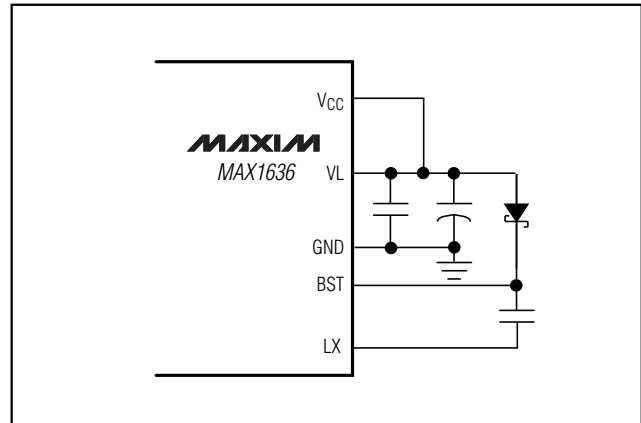

Figure 7. Capacitor Placement
- 2) Place the IC and signal components. Keep the main switching nodes (LX nodes) away from sensitive analog components (current-sense traces and REF capacitor). Place the IC and analog components on the opposite side of the board from the power-switching node. **Important:** The IC must be no further than 10mm from the current-sense resistors. Keep the gate-drive traces (DH, DL, and BST) shorter than 20mm and route them away from CSH, CSL, and REF. Place ceramic bypass capacitors close to the IC. The bulk capacitors can be placed further away. If using VL to power VCC, minimize noise by placing a 0.1µF capacitor close to the VCC pin and placing the 4.7µF capacitor further away, but closer than the boost diode (Figure 7).